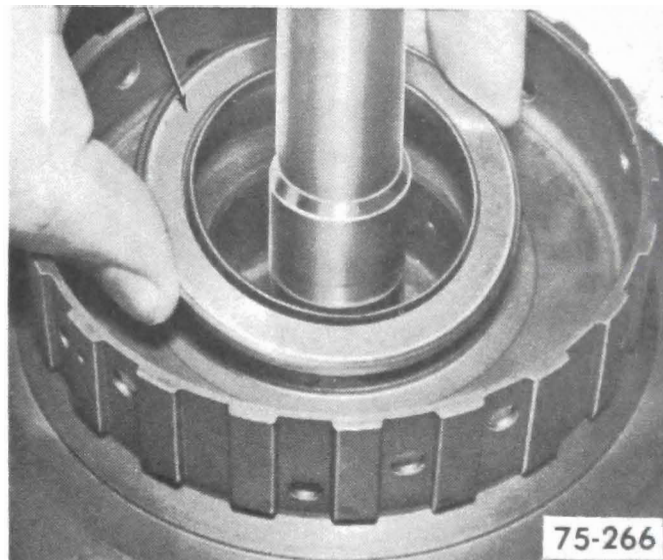

Figure 75-242
1. Install direct clutch drum to forward clutch housing needle roller bearing. See Figure 75-242.